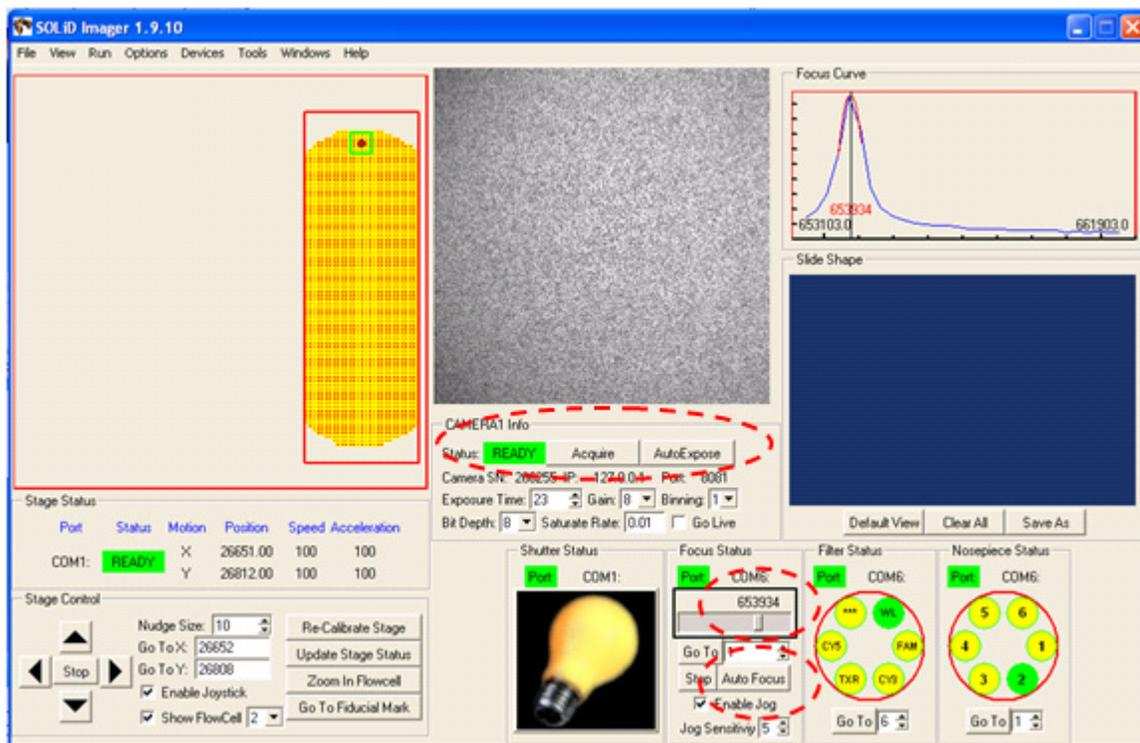

Figure 80 Record the Z distance value.
7. Record the Z distance value from the Focus Status pane (see Figure 80 on page 116).